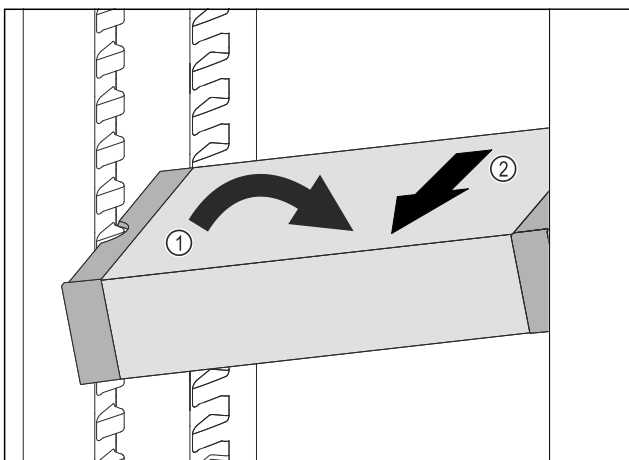

Fig. 127
- ▶ Set VarioSafe in refrigerator compartment at an angle. Fig. 127 (1)
- ▶ Take VarioSafe out to the front. Fig. 127 (2)